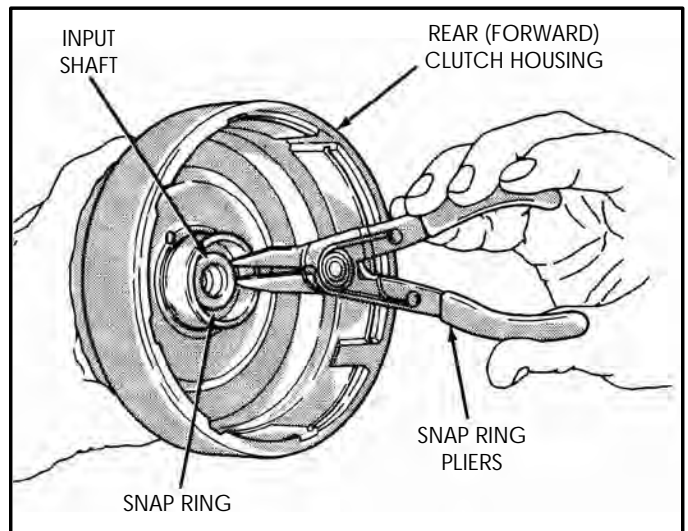

Figure 79
9. If it does become necessary to remove the input shaft, refer to Figures 79 and 80.